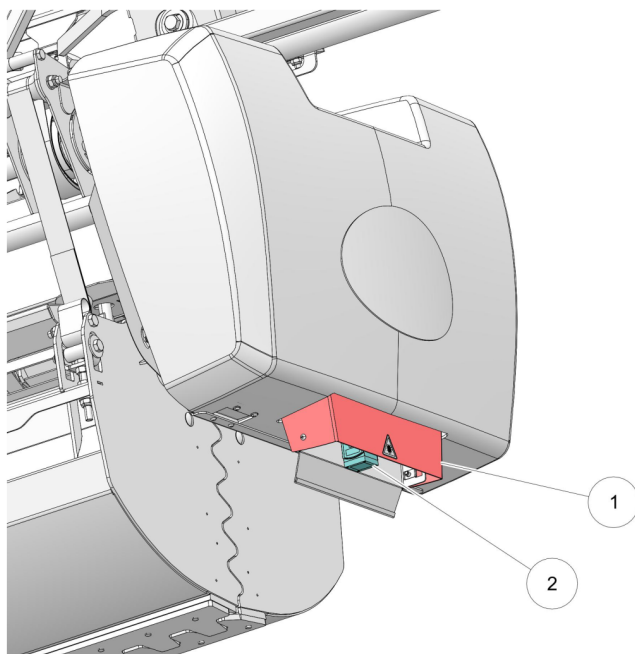

Figure 64. Feed height sensor
- The cover (1) (see figure 64 on page 6-20) and the feed height sensor (2).